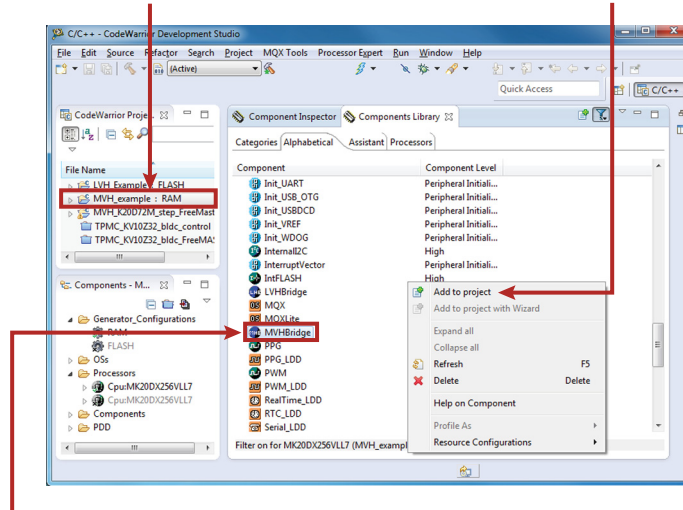

Figure 36. Add the MVHBridge Component to the Project
1. Find MVHBridge in the Components Library and add it into your project (see Figure 36).